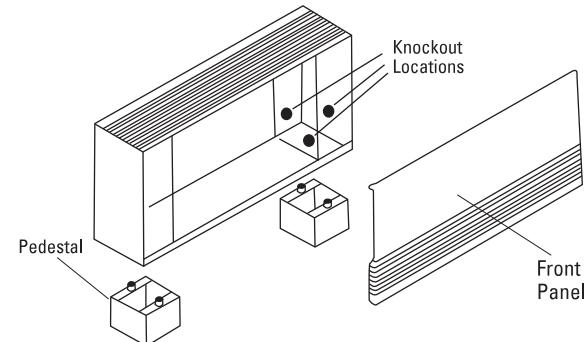

Figure 2
- Remove heater front cover by lifting top rear edge to unsnap cover from back plate (store cover in safe location to avoid damage to the finish). (See Figure 2.)